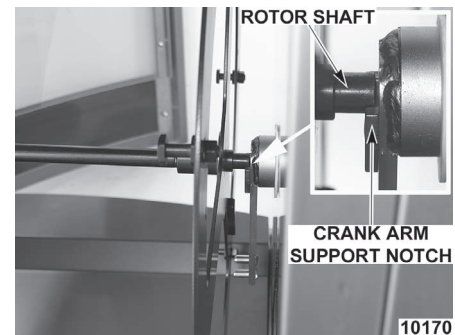

Fig. 3
STEP 3: Place the drive side of the rotor shaft on the drive arm support notch (Fig. 3).